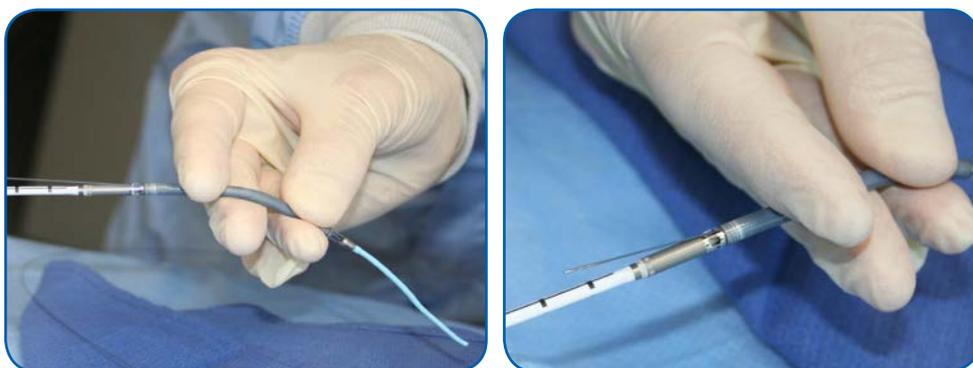

Figure 5.23 Loading the Catheter on the Guidewire without the EasyGuide Lumen and Aligning the Placement Guidewire
a. Advance the guidewire into the Impella® Catheter and stabilize the cannula between the fingers as shown in Figure 5.23. This prevents pinching of the inlet area. The guidewire must exit the outlet area on the inner radius of the cannula and align with the straight black line on the catheter as shown in Figure 5.23. The cannula can be hyperextended as necessary to ensure the guidewire exits on the inner radius of the cannula.
b. The scrub assistant can help stabilize the catheter by holding the catheter proximal to the motor. This will allow the implanting physician to visualize the inner radius. The guidewire must exit the outlet area on the inner radius of the cannula and align with the straight black line on the catheter, as shown in Figure 5.23. The physician can focus on advancing the guidewire and, if the cannula needs to be hyperextended, the scrub assistant is available to assist.